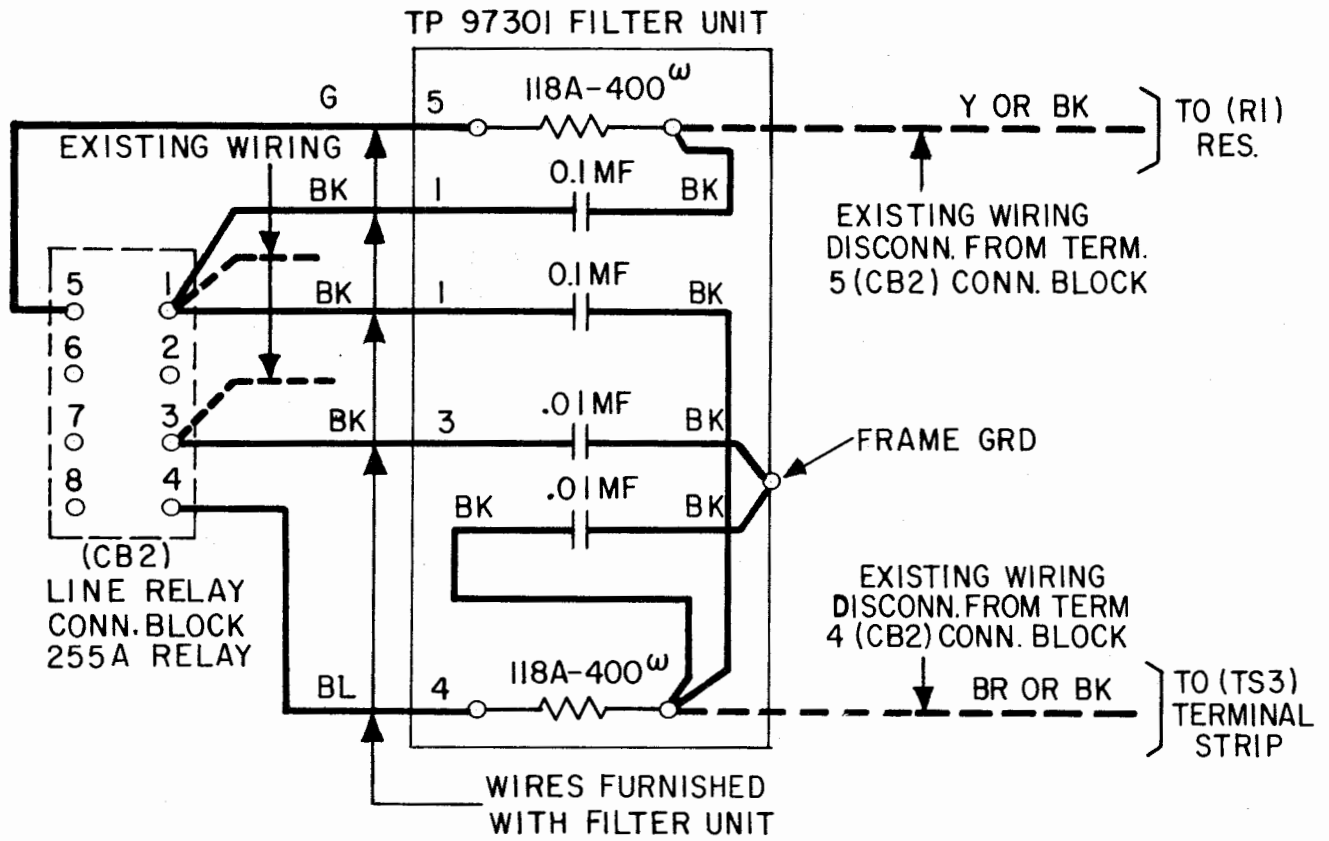

Figure 1
2.02 Refer to Figure 1 and connect the filter as follows:
(1) Unsolder the lead connected to relay terminal 4 and connect it to the upper terminal of the filter resistor 4.
(2) Unsolder the lead connected to relay terminal 5 and connect it to the upper terminal of the filter resistor 5.
(3) Connect the short lead from the lower terminal of filter resistor 4 to terminal 4 of the relay connecting block.
(4) Connect the short lead from the lower terminal of filter resistor 5 to terminal 5 of the relay connecting block.
(5) Connect the condenser lead 3 to terminal 3 of the relay connecting block in which the line relay is operated on neutral signals. If the line relay is to be operated on polar signals with the two relay windings in series, connect the filter condenser lead 3 to terminal 2 of the relay connecting block.
(6) Connect the two filter leads marked 1 to terminal 1 of the relay connecting block.
(7) Check the connections of the filter with Figure 1.